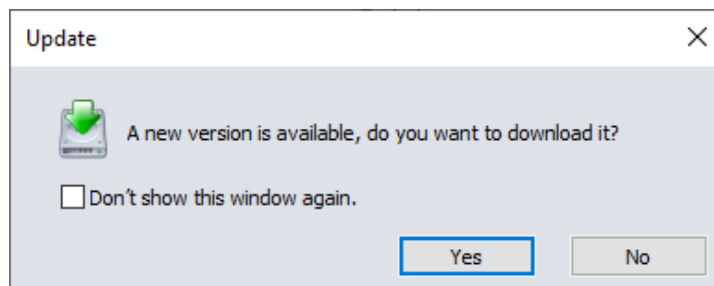

Figure F-1 Update Message
- 1) If the new version of PC-Beamage is available, the following message will be displayed when PC-Beamage is started, see Figure F-1